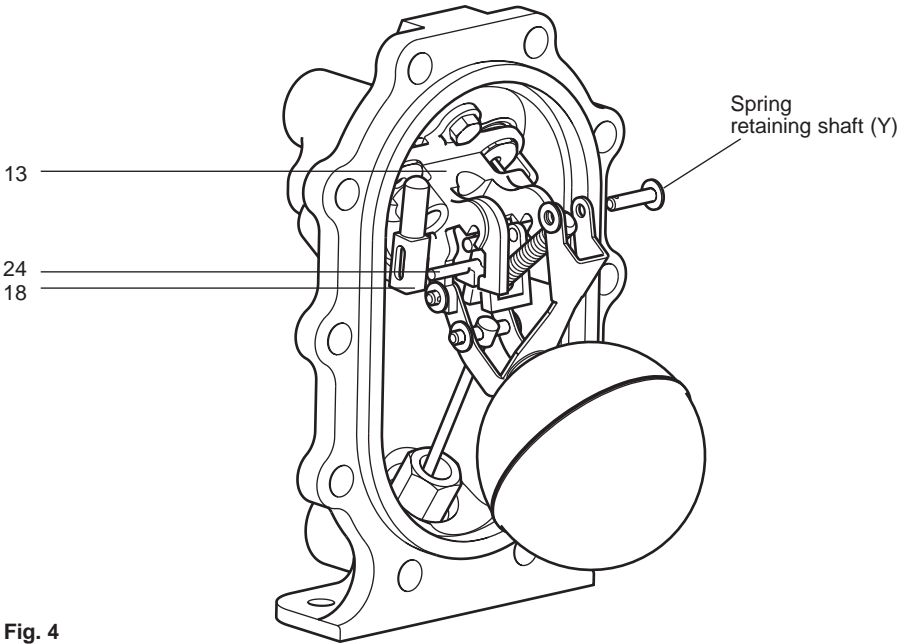

Fig. 4
4. Remove the split pin and washer, from the spring retaining shaft (Y). (See Fig. 4).
6. Draw the actuator arm downwards within its slots until the whole spring and actuator arm assembly with the exhaust valve comes free. It may be necessary to slide the exhaust valve (item 18) backwards against its internal spring to free it from the pump bracket guide (item 13).
8. Gently rotate the exhaust valve away from the tanged spigot of the actuator arm (item 24, shown in Fig. 4) being careful not to damage or lose the small exhaust valve compression spring.